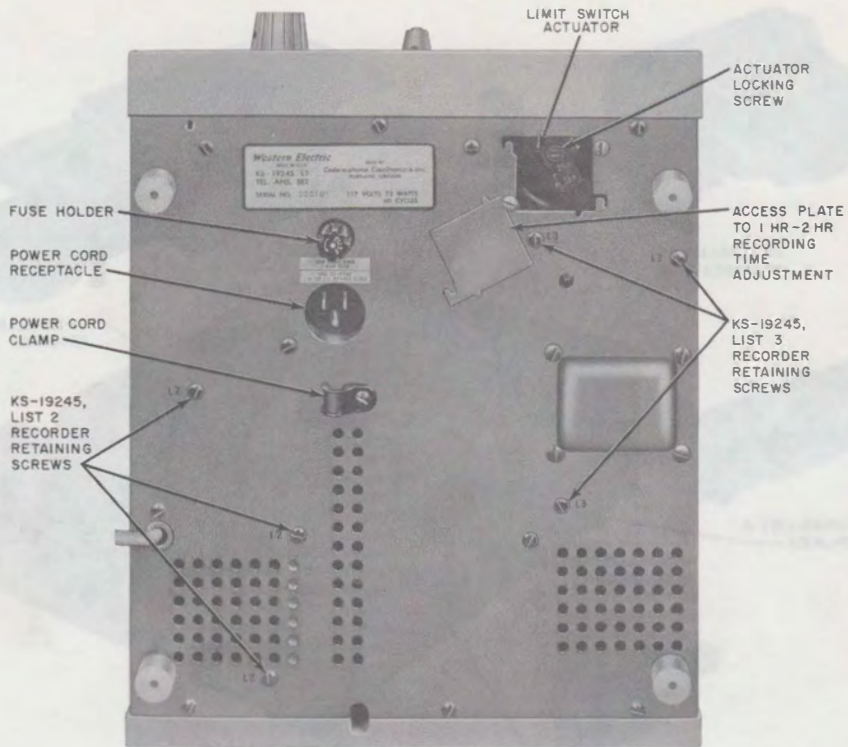

Fig. 2—KS-19245 List 1 Telephone Answering Set (Bottom View)
- (a) Remove three retaining screws located on bottom of set (Fig. 2).
- (a) Remove three retaining screws located on the bottom of set (Fig. 2).
- (1) Insert plug of power cord into ac outlet.
- (2) Run the set in rewind to obtain a message indicator dial reading of 0 (set will stop automatically).
- (3) Remove access cover (Fig. 2).
- (4) Adjust limit switch actuator (Fig. 2):
- (5) Replace access cover.